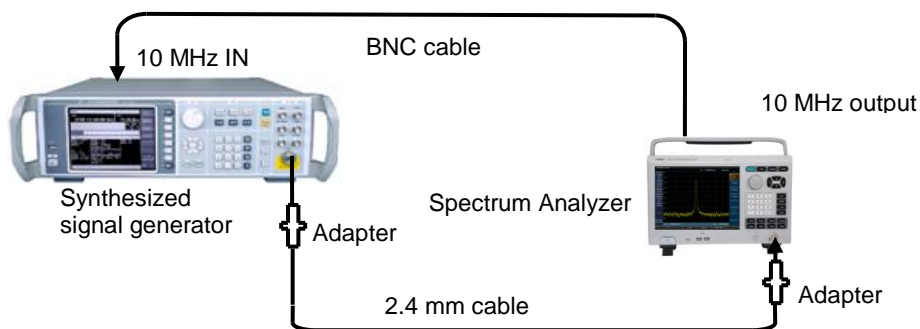

Fig 11-3 Span Accuracy Testing Setup
1) Connect the test instrument as shown in Fig 11-3. The spectrum analyzer provides a reference frequency for the synthetic signal generator.